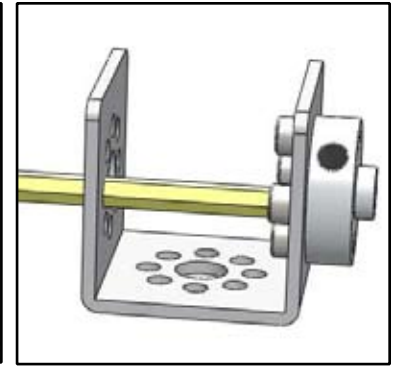

Figure B15a
- 4) Using 1/2" SHCSs, attach a set screw axle hub to the outside of a 32 mm channel piece (Figure B15a), but do not tighten them all the way. Insert an axle into the hub so it is flush with the outside of the hub. Turn the axle so the set screw faces the axle's flat side and tighten the set screw.